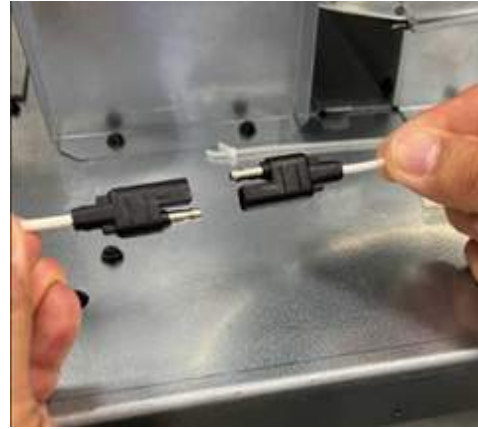

FIGURE 16D
10. Make sure to fix the 2 way connector on the left side of the drain pan using the cord clip for 7.5 ton, and on the drain pan support for 8.5-12.5 ton unit. See Figure 16D.